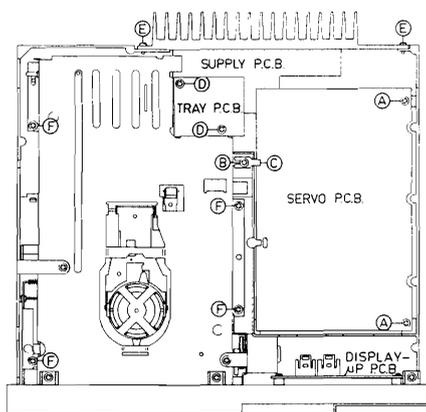

Fig. 3
- Remove the 2 screws E (see Fig. 3).
### SERVICING THE SERVO PCB AND THE DECODER PCB (see Fig. 3)
- Remove the 4 screws F (see Fig. 3).